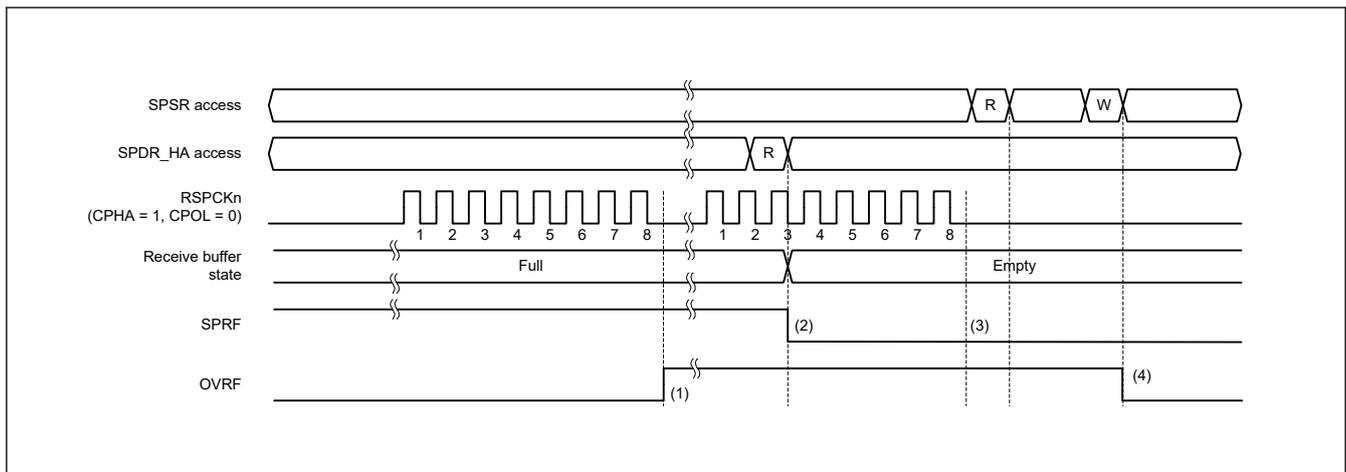

Figure 27.27 Operation example of the OVRF and SPRF flags
Figure 27.27 shows an example of operation of the OVRF and SPRF flags. The SPSR and SPDR_HA accesses shown in Figure 27.27 indicate the condition of accesses to the SPSR and SPDR_HA register, where W denotes a write cycle, and R a read cycle. In this example, the SPI performs an 8-bit serial transfer when SPCMD0.CPHA bit is 1 and the SPCMD0.CPOL bit is 0. The numbers given for RSPCK_n in the waveform represent the number of RSPCK cycles, such as the number of transferred bits.
The operation of the flags at timings (1) to (4) in Figure 27.27 is as follows: